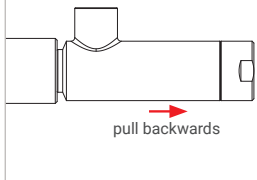

Figure 11
- ▶ Pull lightly on the connector (red arrow *Figure 11*) in the direction opposite that of the connection to make sure that the connector is firmly in place.